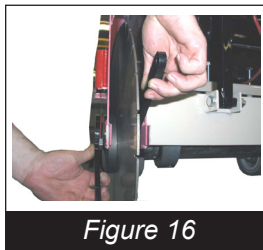

Figure 16
- Fit the blade retaining bolt and internal tooth lock washer, retighten the bolt using the two 1 1/2" - 5/8" combination wrenches which were supplied with the machine. (Figure 16)